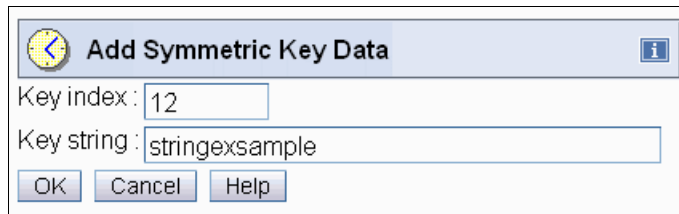

Figure 9-14 HMC: Customize Console Date and Time Symmetric key index and string
4. The Add Symmetric Key Data panel opens (Figure 9-14). These two fields require input: